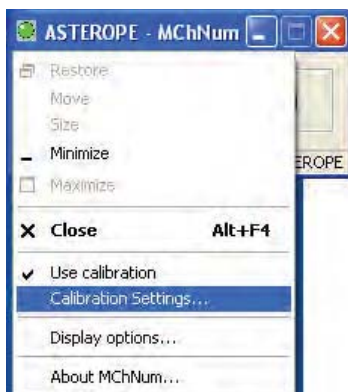

Figure 5-2 MCHNum context menu
7. Click the Green LED at the top left corner of the MCHNum Browser window or right click the top pane to display the MCHNum context menu (Figure 5-2).